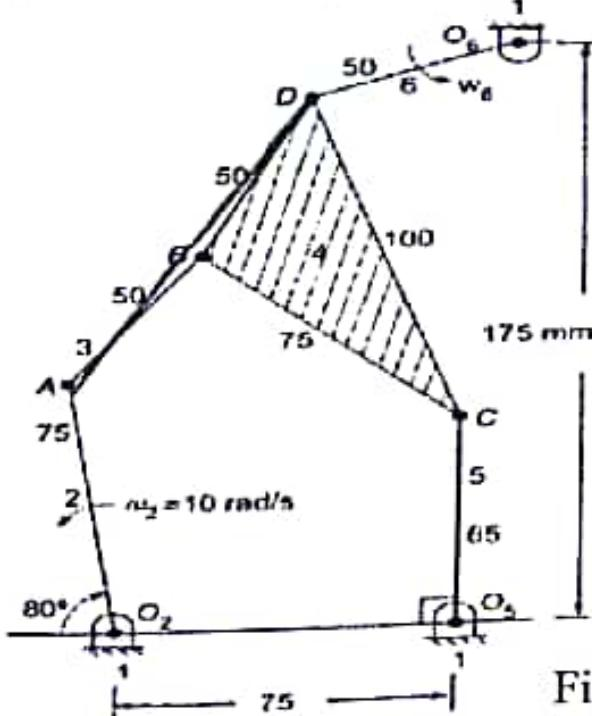

Fig no 2
- c For the mechanism shown in fig no 2, determine  $w_4$  and  $w_6$
- b Mechanism is shown in fig no 2 roller 4 roll on plane fix surface. Crank 2 rotate in counter clockwise direction such that point B moves uniformly at 50 cm/sec about